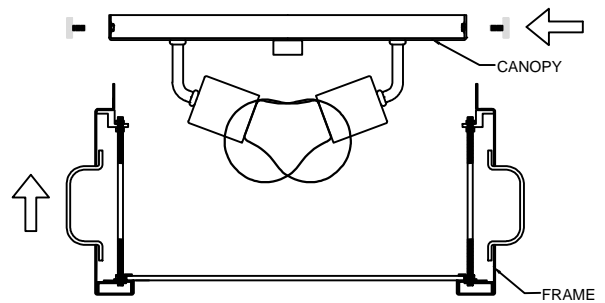

FIGURE-03
7. Install the frame to the canopy using thumbscrews. (See Figure -03)